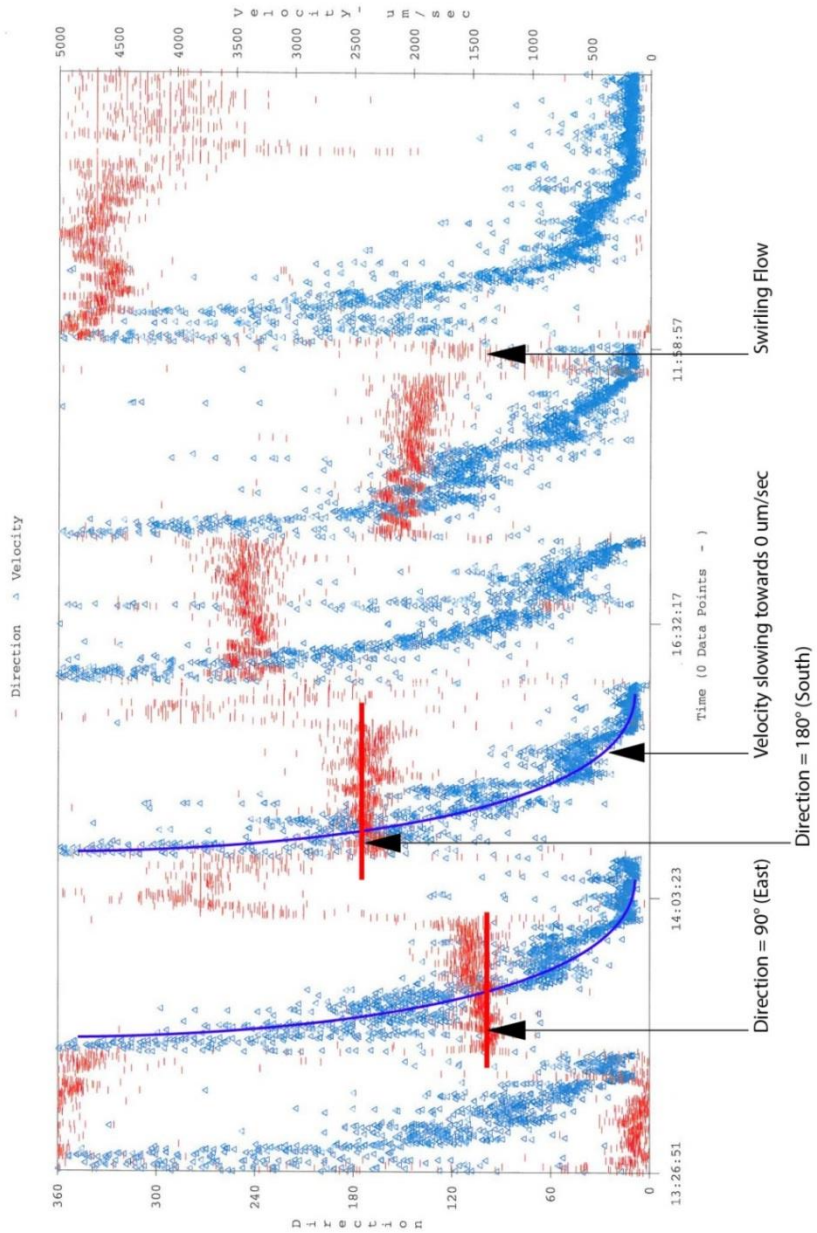

Figure 3.2 – Bucket Test Data Report
5. Swirl the water in the bucket clockwise, and place the Borescope in the water against the north side of the bucket for at least 20 minutes. Using the Graph View, observe the colloidal particles moving towards the east (90°), and observe the velocity decreasing as the water slows down and the particles begin to swirl in multiple directions. When viewing the graph, you should see a decrease in velocity as the water slows down, and the direction lines should start to represent swirling flow (figure 3.2).